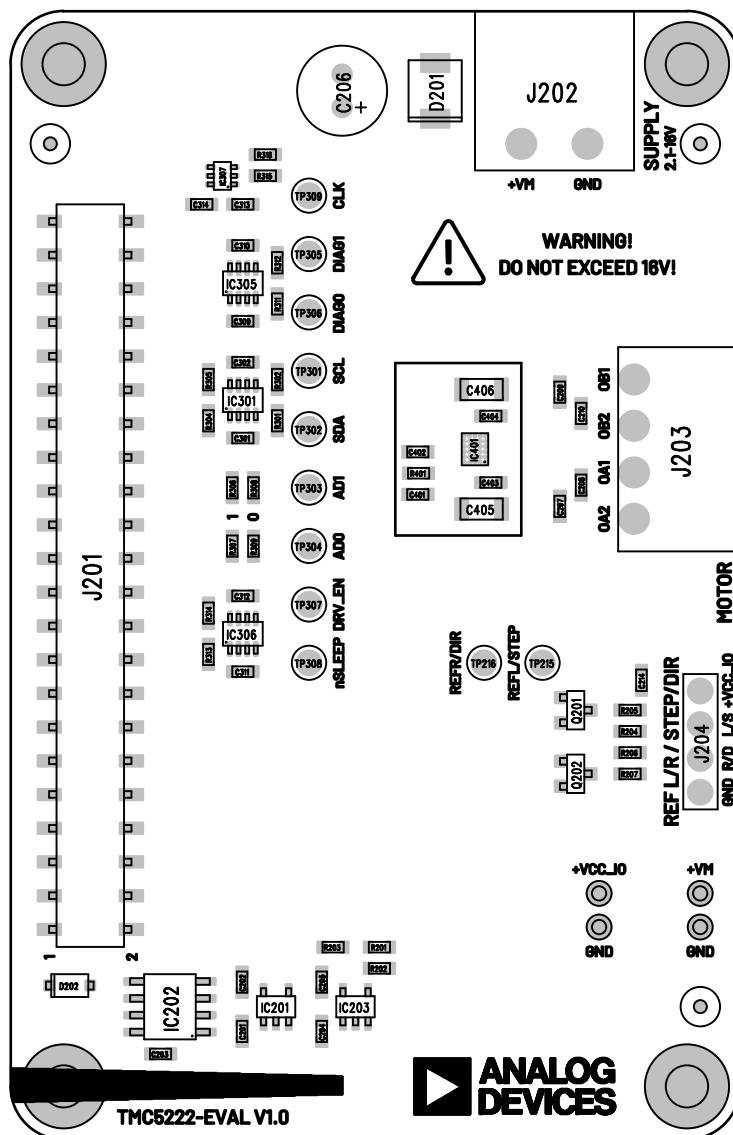

Figure 4. TMC5222-EVAL Component Placement and Silkscreen
2. Plug the selected motor to connector J203, labelled as *MOTOR* on the board's silkscreen (Figure 4). Observe the correct order of the A1, A2, B1, and B2 motor phases.
4. Plug the power supply cable to connector J202, labelled as *SUPPLY* on the board's silkscreen (Figure 4). Make sure the power supply is off and the polarity is correct before connecting it to the board.
The TMC5222-EVAL has one power, one motor connector, and two pin headers, which are found in the component placement drawing in Figure 4 and described in Table 1.
In addition to the connectors shown in Table 1, some unpopulated THM test points are available in the TMC5222-EVAL. See the component placement drawing in Figure 4. The additional connectors are described in Table 2.